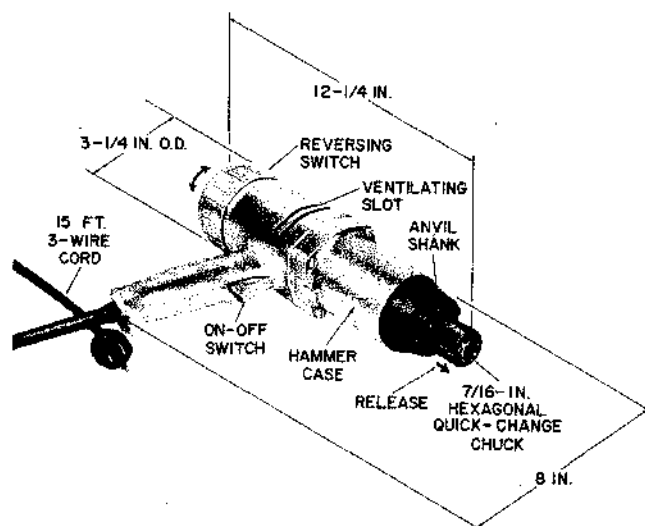

Fig. 1—B Impact Wrench with END Cap Reversing Switch
2.01 The B impact wrench (Fig. 1 and 2) operates on 115 volts ac or dc, develops about 100 ft-lbs of torque, and is reversible. The wrench is equipped with a 7/16-inch hexagonal quick-change chuck, pistol-grip handle, nonlocking on-off trigger switch, reversing switch, 15-foot 3-wire cord, and
3.03 The life of the motor of this tool depends upon proper lubrication and ventilation. Be sure the ventilating slots (Fig. 1 and 2) are free from accumulation of dirt.
4.06 Before using the wrench, place a few drops of machine oil around the shank of the anvil (Fig. 1) where it emerges from the bushing at the front of the hammer case. Hold the wrench with the chuck uppermost.
4.07 Once each month, remove the hammer case and grease, if needed, the impact unit (Fig. 1) with a good grade of ball or roller bearing grease, lubricating the jaws, cam balls, and bearing surfaces. Do not use too much grease as this will cause the wrench to operate sluggishly. Do not apply grease to the cylindrical surface of the hammer since this is not a bearing surface.
7.04 When changing the direction of rotation, make sure that the reverse cap (Fig. 1) is turned as far as it will go.